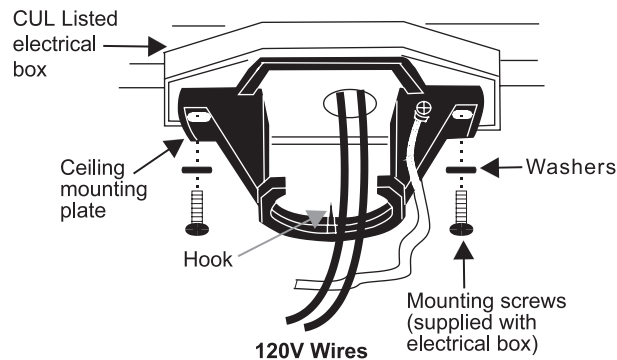

Figure 5
**Step 1.** Pass the 120-volt supply wires through the center hole in the ceiling hanger bracket as shown in Fig. 5.
2. Pass the 120-volt supply wires through the center hole in the ceiling hanger bracket as shown in Fig. 5.